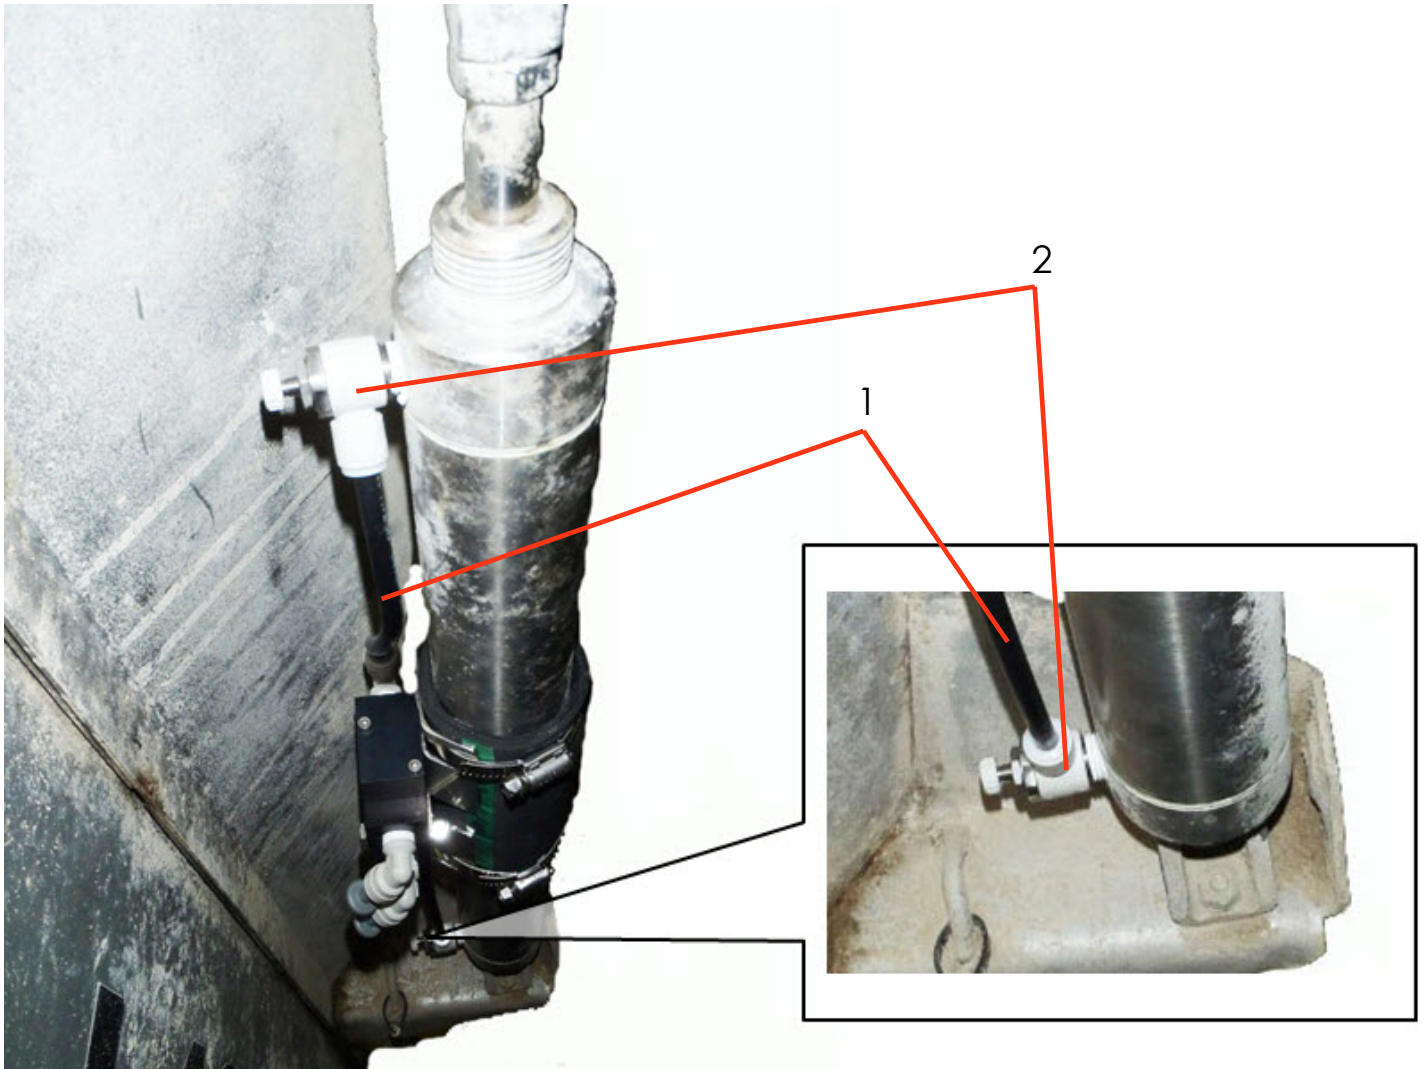

Figure 15
15. Figure 15 - Connect check valve tubes (1) to cylinder fittings (2) at both ends. Push firmly to seat tubes into fittings.